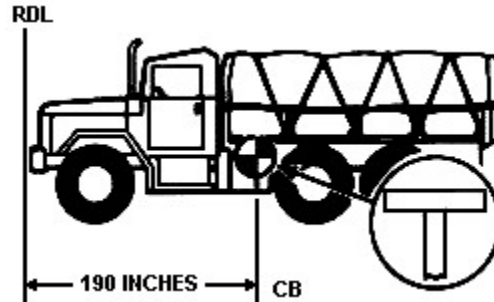

Figure 3-19
- a. Measure from RDL to CB distance that was obtained from computations (see Figure 3-19).